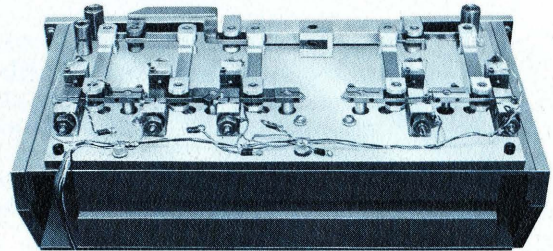

Figure 13. Head Positioning Mechanism
12. Five equal amplitude input deflections acquire binary weightings of $2^0 - 2^4$ and from the linkage relationships provide 32 precisely repeatable positions of the head post with very fast head shifting. Of these 32 positions 28 are actually required for positioning the head; the remaining four are electronically ignored by the equipment. The actual head positioning mechanism is shown in Figure 13.